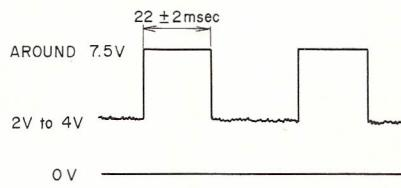

Fig. 21
- Adjust VR1 until the width of the upward pulse above 2 to 4V is 22 ± 2 msec when the Strobe markings is seen standing still, as Fig. 21. (oscilloscope-DC Mode)